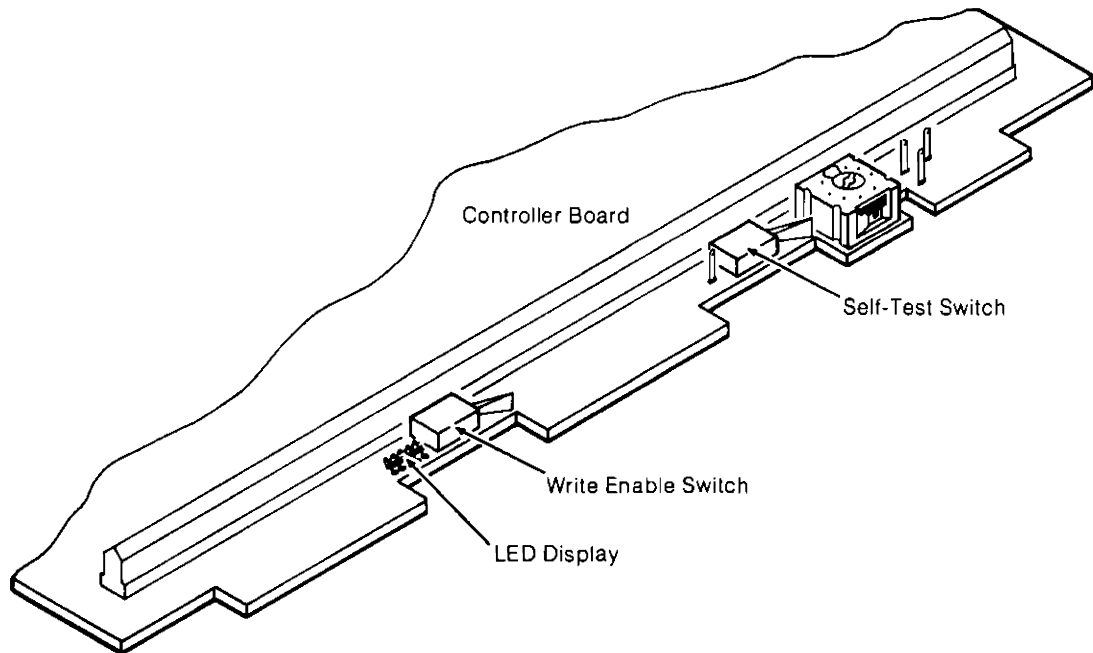

Figure 1-4. Self-Test Functions
1. Remove the front cover of the 9895A, thereby exposing two toggle switches and an LED display on the front edge of the controller (see Figure 1-4).